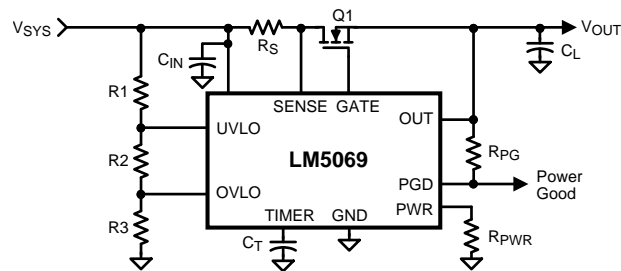
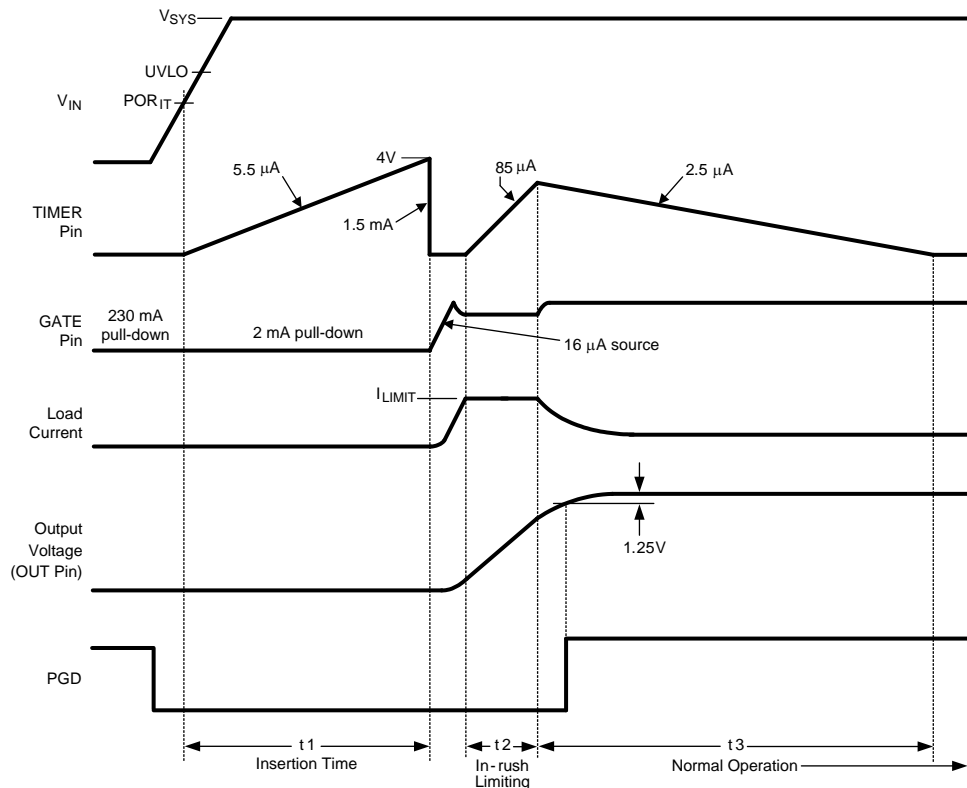

Figure 22. Basic Application Circuit
Figure 24. Power Up Sequence (Current Limit only)
The VIN operating range of the LM5069 is +9V to +80V, with a transient capability to +100V. Referring to the Block Diagram and Figure 22 and Figure 24, as the voltage at VIN initially increases, the external N-channel MOSFET (Q1) is held off by an internal 230 mA pull-down current at the GATE pin. The strong pull-down current at the GATE pin prevents an inadvertent turn-on as the MOSFET's gate-to-drain (Miller) capacitance is charged. Additionally, the TIMER pin is initially held at ground. When the VIN voltage reaches the  $POR_{IT}$  threshold (7.6V) the insertion time begins. During the insertion time, the capacitor at the TIMER pin ( $C_T$ ) is charged by a 5.5  $\mu A$  current source, and Q1 is held off by a 2 mA pull-down current at the GATE pin regardless of the VIN voltage. The insertion time ends when the TIMER pin voltage reaches 4.0V.  $C_T$  is then quickly discharged by an internal 1.5 mA pull-down current. After the insertion time, the LM5069 control circuitry is enabled when VIN reaches the  $POR_{EN}$  threshold (8.4V). The GATE pin then switches on Q1 when  $V_{SYS}$  exceeds the UVLO threshold (UVLO pin >2.5V). If  $V_{SYS}$  is above the UVLO threshold at the end of the insertion time, Q1 switches on at that time. The GATE pin charge pump sources 16  $\mu A$  to charge Q1's gate capacitance. The maximum gate-to-source voltage of Q1 is limited by an internal 12V zener diode.
As the voltage at the OUT pin increases, the LM5069 monitors the drain current and power dissipation of MOSFET Q1. In-rush current limiting and/or power limiting circuits actively control the current delivered to the load. During the in-rush limiting interval ( $t_2$  in Figure 24) an internal  $85\ \mu\text{A}$  fault timer current source charges  $C_T$ . If Q1's power dissipation and the input current reduce below their respective limiting thresholds before the TIMER pin reaches 4.0V the  $85\ \mu\text{A}$  current source is switched off, and  $C_T$  is discharged by the internal  $2.5\ \mu\text{A}$  current sink ( $t_3$  in Figure 24). The in-rush limiting interval is complete when the voltage at the OUT pin increases to within 1.25V of the input voltage ( $V_{\text{SYS}}$ ), and the PGD pin switches high.
A charge pump provides internal bias voltage above the output voltage (OUT pin) to enhance the N-Channel MOSFET's gate. The gate-to-source voltage is limited by an internal 12V zener diode. During normal operating conditions ( $t_3$  in Figure 24) the gate of Q1 is held charged by an internal  $16\ \mu\text{A}$  current source to approximately 12V above OUT. If the maximum  $V_{\text{GS}}$  rating of Q1 is less than 12V, a lower voltage external zener diode must be added between the GATE and OUT pins. The external zener diode must have a forward current rating of at least 250 mA.
During the insertion time ( $t_1$  in Figure 24) the GATE pin is held low by a 2 mA pull-down current. This maintains Q1 in the off-state until the end of  $t_1$ , regardless of the voltage at  $V_{\text{IN}}$  or UVLO.
Following the insertion time, during  $t_2$  in Figure 24, the gate voltage of Q1 is modulated to keep the current or power dissipation level from exceeding the programmed levels. While in the current or power limiting mode the TIMER pin capacitor is charging. If the current and power limiting cease before the TIMER pin reaches 4V the TIMER pin capacitor then discharges, and the circuit enters normal operation.
The series pass MOSFET (Q1) is enabled when the input supply voltage ( $V_{\text{SYS}}$ ) is within the operating range defined by the programmable under-voltage lockout (UVLO) and over-voltage lock-out (OVLO) levels. Typically the UVLO level at  $V_{\text{SYS}}$  is set with a resistor divider (R1-R3) as shown in Figure 22. When  $V_{\text{SYS}}$  is below the UVLO level, the internal 21  $\mu\text{A}$  current source at UVLO is enabled, the current source at OVLO is off, and Q1 is held off by the 2 mA pull-down current at the GATE pin. As  $V_{\text{SYS}}$  is increased, raising the voltage at UVLO above 2.5V, the 21  $\mu\text{A}$  current source at UVLO is switched off, increasing the voltage at UVLO, providing hysteresis for this threshold. With the UVLO pin above 2.5V, Q1 is switched on by the 16  $\mu\text{A}$  current source at the GATE pin if the insertion time delay has expired (Figure 24). See the Applications Section for a procedure to calculate the values of the threshold setting resistors (R1-R3). The minimum possible UVLO level at  $V_{\text{SYS}}$  can be set by connecting the UVLO pin to VIN. In this case Q1 is enabled when the VIN voltage reaches the  $\text{POR}_{\text{EN}}$  threshold.
(REFER TO Figure 22)
**A) Insertion Delay** - Upon applying the system voltage ( $V_{SYS}$ ) to the circuit, the external MOSFET (Q1) is held off during the insertion time ( $t_1$  in Figure 24) to allow ringing and transients at  $V_{SYS}$  to settle. Since each backplane's response to a circuit card plug-in is unique, the worst case settling time must be determined for each application. The insertion time starts when  $V_{IN}$  reaches the  $POR_{IT}$  threshold, at which time the internal  $5.5 \mu\text{A}$  current source charges  $C_T$  from 0V to 4.0V. The required capacitor value is calculated from: